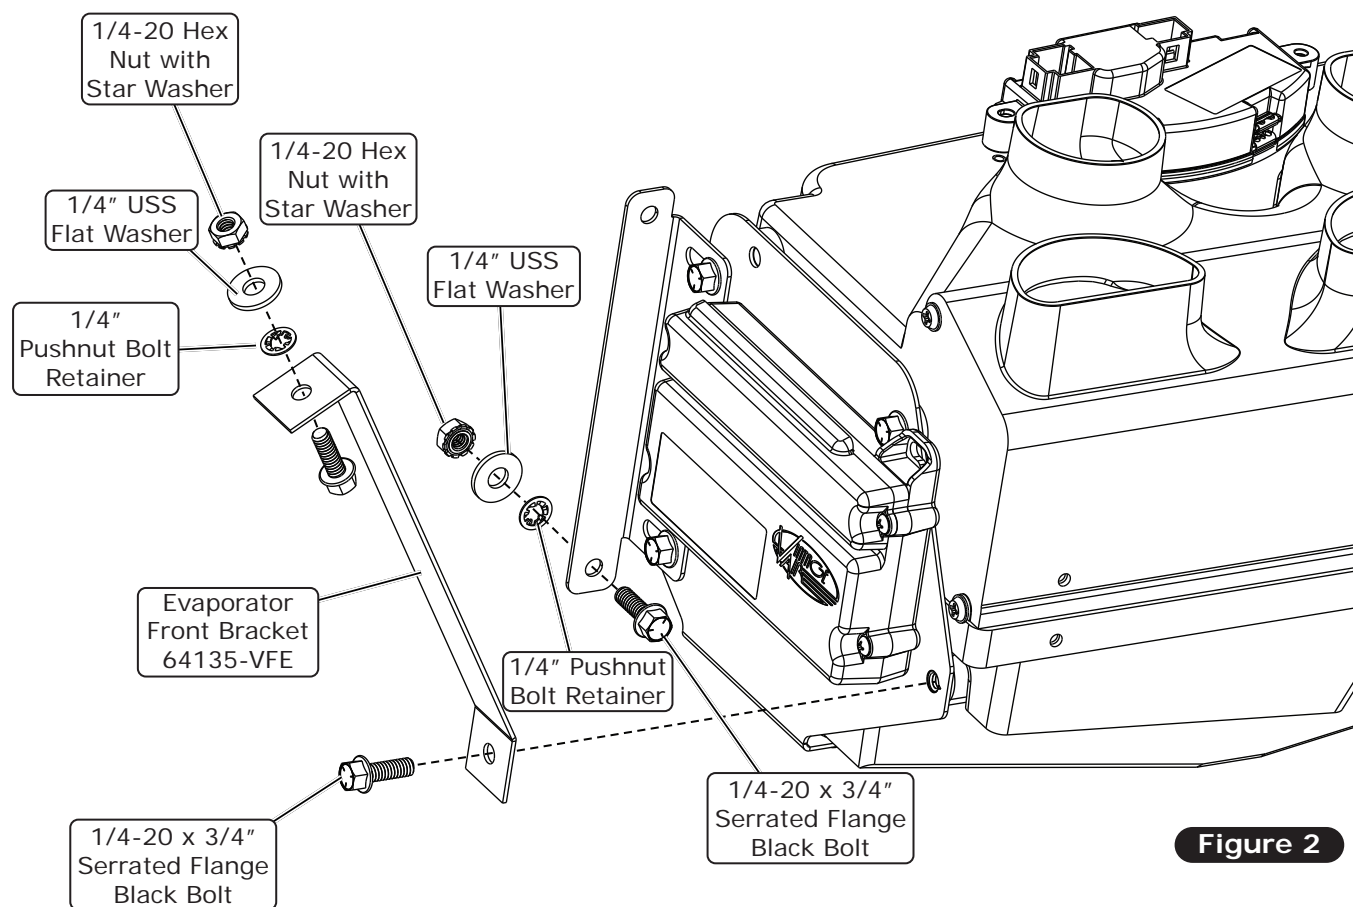

Figure 2
7. The 1/4-20 x 3/4" serrated flange black bolt, 1/4" pushnut bolt retainer, 1/4" USS flat washer and 1/4-20 hex nut with star washer shown in Figure 2, below, on the lower left mounting ear of the evaporator will be repeated four times to secure the case through the .281" holes drilled through firewall.
8. The (2) bolts factory installed through the slotted slide bracket to the driver-side case mounting bracket can be adjusted by the customer to the perfect fit of the case against the firewall. This slot gives the driver side of the case about 9/16" of fore/aft adjustment while the passenger-side mounting points remain fixed. This means that the case can pivot slightly about the (2) passenger-side bolts before all (4) bolts are tightened.
9. In conjunction with the (4) firewall mounting points, we've provided a single mounting point for securing the evaporator to the dash. Secure the evaporator front bracket to the weld nut on the driver-side case bracket down low near the floor duct as shown in Figure 2, below. **NOTE: Use this evaporator front bracket as-is, modify it, or fabricate a custom dash bracket to fit properly.** The dash mounting bracket is secured to the case and dash using 1/4-20 x 3/4" serrated flange black bolt, same as at the firewall.